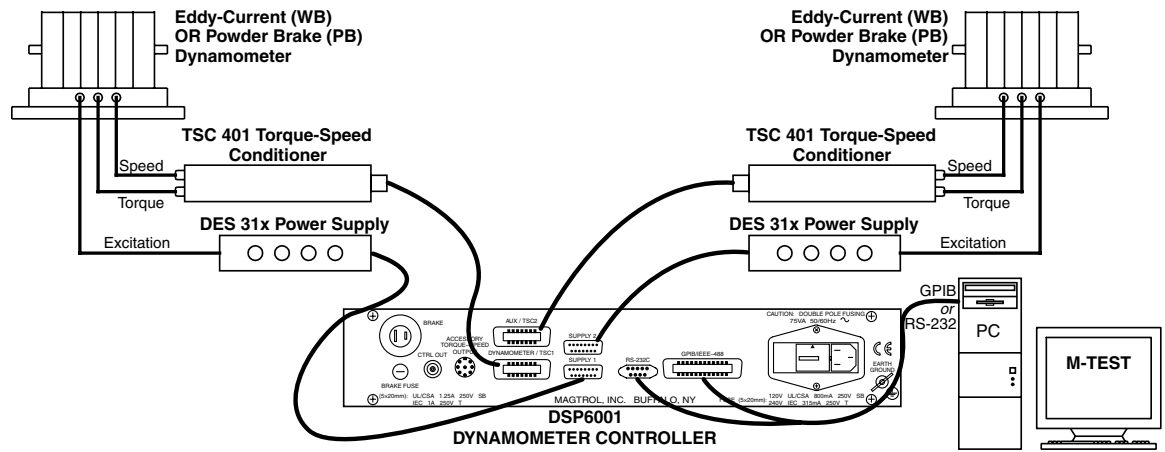

Figure 3–24 Two Eddy-Current/Powder Brake Dynamometers (Independent Setup)
10. Press SHIFT to complete the initial setup and return to the new main menu. See *Figure 3–16 TSC1 with AUX Output Menu*.